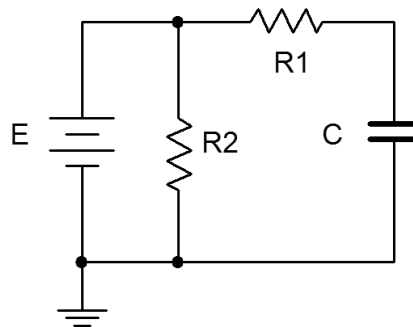

Figure 1.2
- Using figure 1.2 with $E=10\text{ V}$, $R_1=47\text{ k}\Omega$, $R_2=10\text{ k}$ and $C=1\text{ }\mu\text{F}$, calculate the time constant and record it in Table 1.3. Also, calculate and record the expected steady state capacitor voltage in Table 1.4.
- Using figure 1.2 with $E=10\text{ V}$, $R_1=47\text{ k}$, $R_2=10\text{ k}\Omega$ and $C=470\text{ }\mu\text{F}$, calculate the time constants and record them in Table 1.5. Also, calculate and record the expected steady state capacitor voltage (charge phase) in Table 1.5.